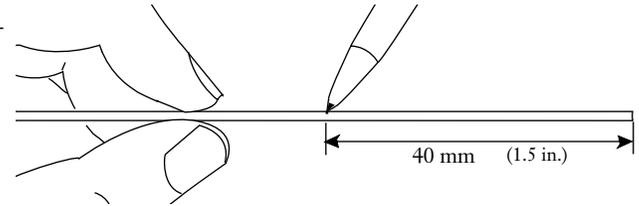

Figure 5-19
**5.5-2** Measure and mark 40 mm (1.5 in) from the end of the cable's outer jacket (Figure 5-19).